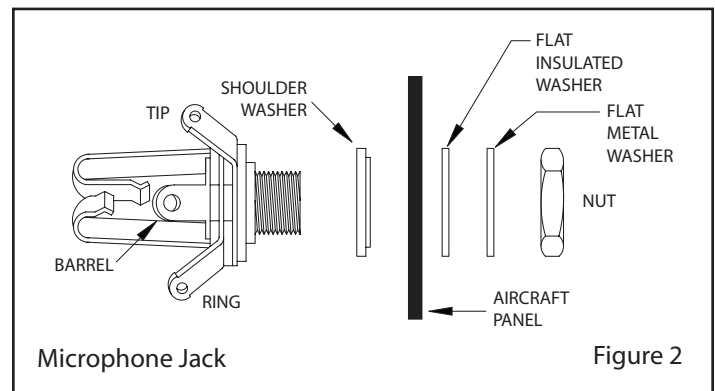
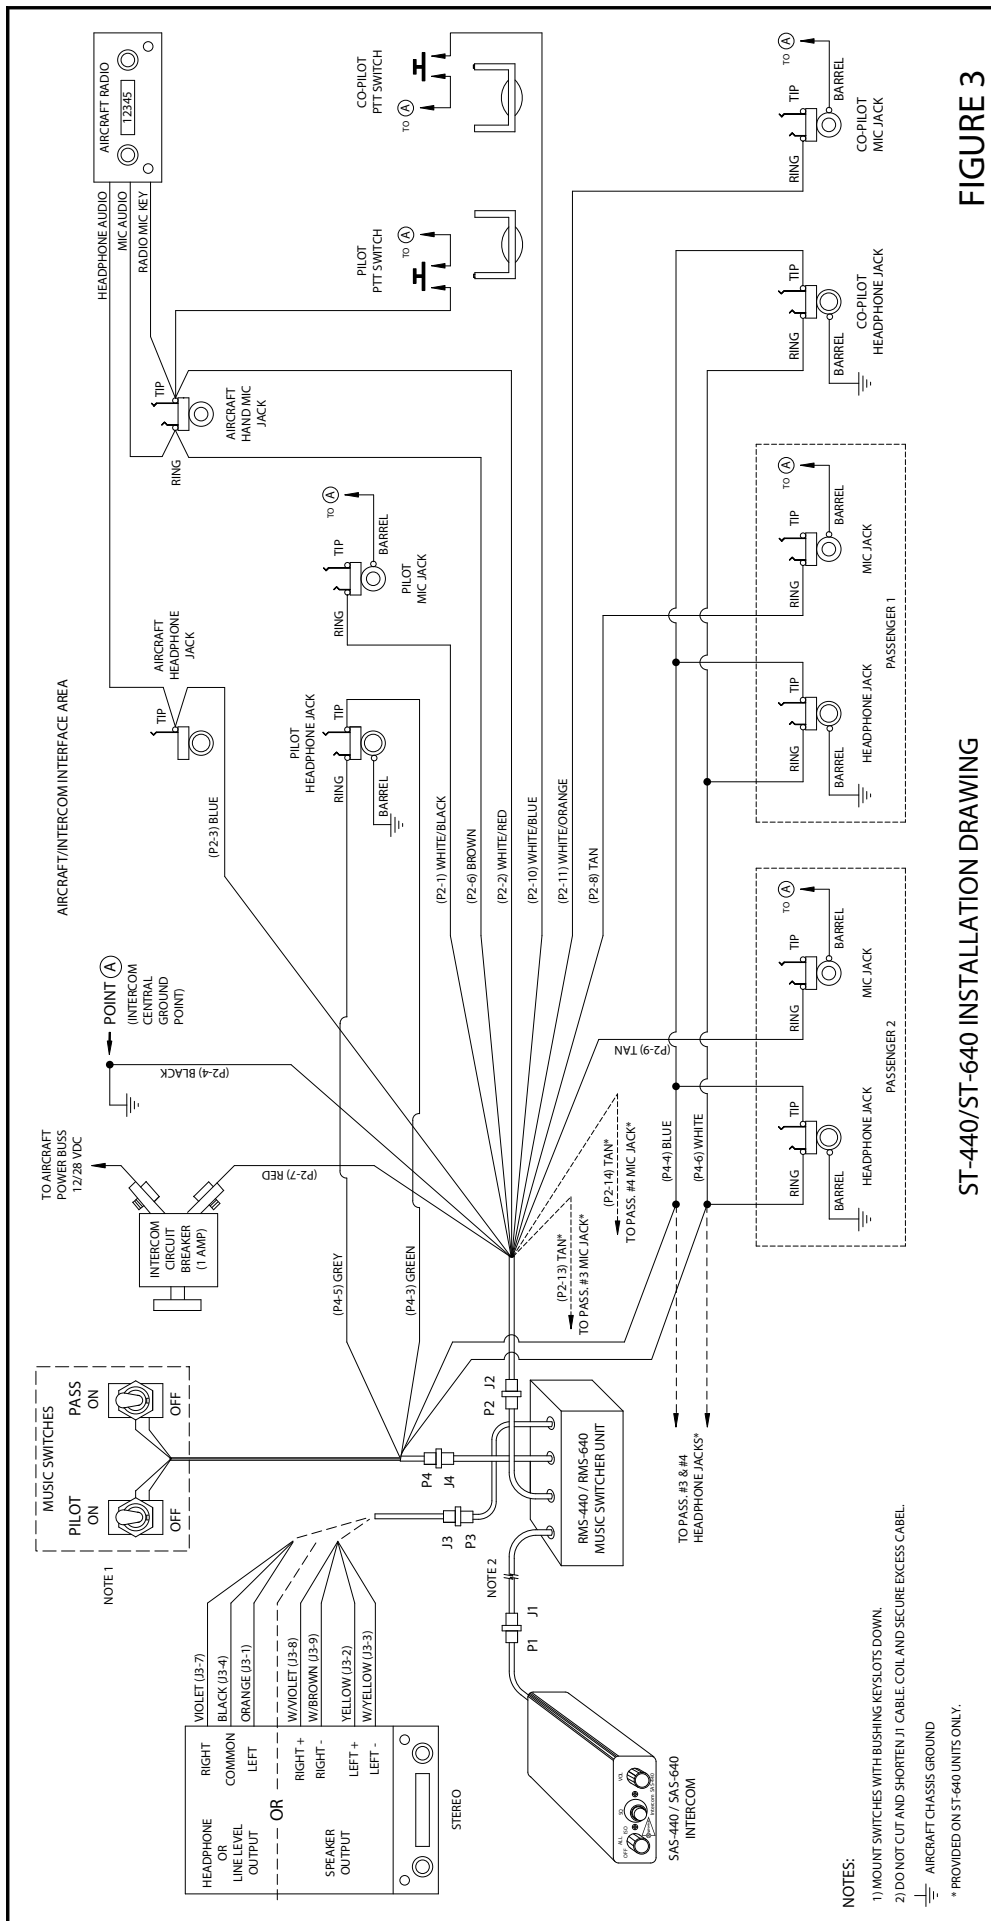

Figure 2
FIGURE 3
2. Drill 3/8" diameter holes for headphone jacks and install. The terminals on the stereo phone jacks may be identified per the mic jack shown in Figure 2. The phone jack bushings (sleeve terminal) must be grounded to airframe or wired to aircraft ground.
3. Drill 1/2" diameter holes for mic jacks and install with insulating washers supplied. (See Figure 2) Note: If the aircraft already has headset jacks (not including the hand mic jack), they can be used for this system, however, any existing wires must be removed and the jacks must be wired as shown in Figure 3. Additionally, if any existing mic jack is mounted in metal, insulating washers must be installed and the barrel connection wired back to Point "A".
1. Connections should be made as shown in Figure 3 and Table 1 on page 3.
4. Connect all intercom mic jack grounds to a single aircraft chassis ground point - Point "A" - as shown in Figure 3. (Use the black washers supplied to insulate the intercom mic jacks from aircraft chassis ground). NOTE: this intercom central grounding point is used to eliminate any unwanted electrical noises, such as alternator whine or strobe noise, from being induced into the intercom system through the grounds. All intercom mic jack barrels must be insulated from ground where they are mounted and connected back to Point "A" on their own individual ground wire. Similarly, both intercom ground wires (J2 pin 4) and the push-to-talk switch grounds must also be connected back to Point "A". It is not necessary, however, to connect the headphone jack barrels to Point "A". They can either be grounded where they are mounted or some place nearby.
3. Unplug the SAS unit from its wiring harness and insert connectors J1 and P2 on the RMS unit as shown in Figure 3. Connect remaining plugs per Figure 3.
4. Remove the intercom headphone jacks from the pilot, co-pilot, and passenger positions in aircraft. Wires, which had been connected to the phone jacks should be cut, insulated and tied back. If two or more wires appear on a single jack terminal, they should be cut free of the jack, then spliced together before insulating and tying back. Do not disturb the microphone jacks. Replace headphone jacks with three terminal type "stereo" jacks supplied with the RMS switcher. Connect wires to the stereo jacks per Figure 3. Terminals on the stereo phone jacks may be identified per the mic jack shown in Figure 2. The jack bushings (barrel terminal) must be grounded to the airframe or wired to aircraft ground. For monaural operation See Note 9 in the "WIRING INSTRUCTIONS" section above.
5. Connect up stereo music source per Figure 3 and Notes 8 and 10 under the "WIRING INSTRUCTIONS" section above.
Rewire all the stereo headphone jacks per Figure 3.